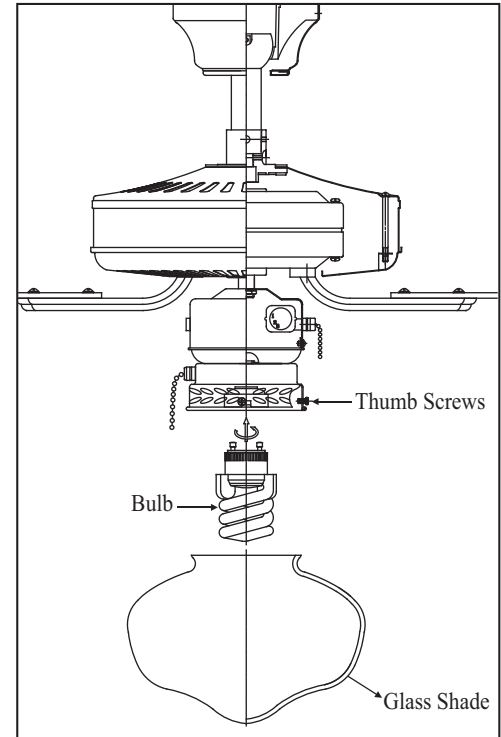

Figure 21
4. Mount the glass shade to the light fixture by unscrewing partway the thumbscrews on the glass holder, insert the glass, then gently tighten the thumbscrews by hand evenly to the glass. **DO NOT OVER TIGHTEN.** (Fig. 21)